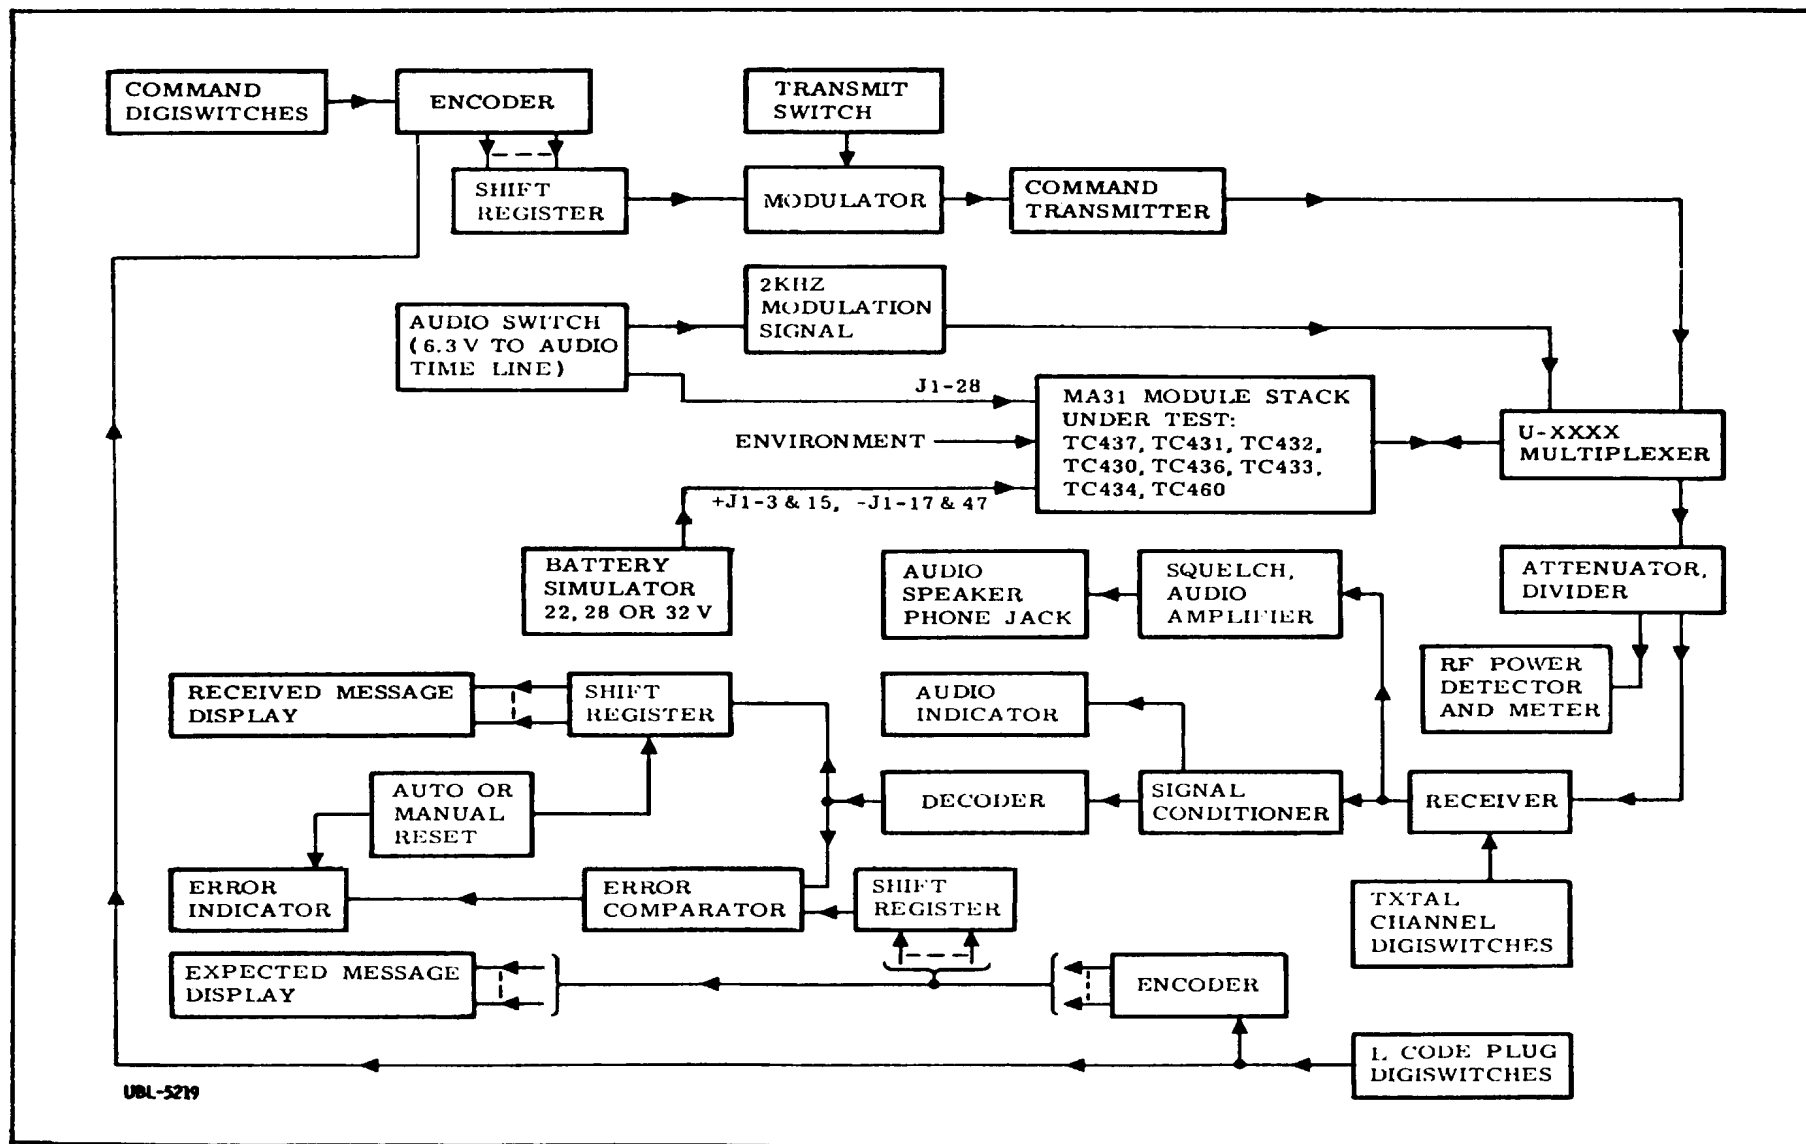

Figure 1-2. CL Module Stack Under Test.
checks of E,Z,L,J,S,R,T, and V modules may be performed and short code messages or status/count bits may be displayed. Audio signals may also be checked. Command Link (CL) module stacks are functionally checked by applying a series of commands from the PT1585 and checking response of the modules by use of indicators (lights or meter readings) on the PT1585 panel. Non-Command Link (NCL) module stacks are function-ally checked by supplying stimulation to the E module and checking the response of the modules by use of indicators on the PT1585 panel. Block diagrams in Figures 1-2 thru 1-9 show functional tests of the modules and sensors.